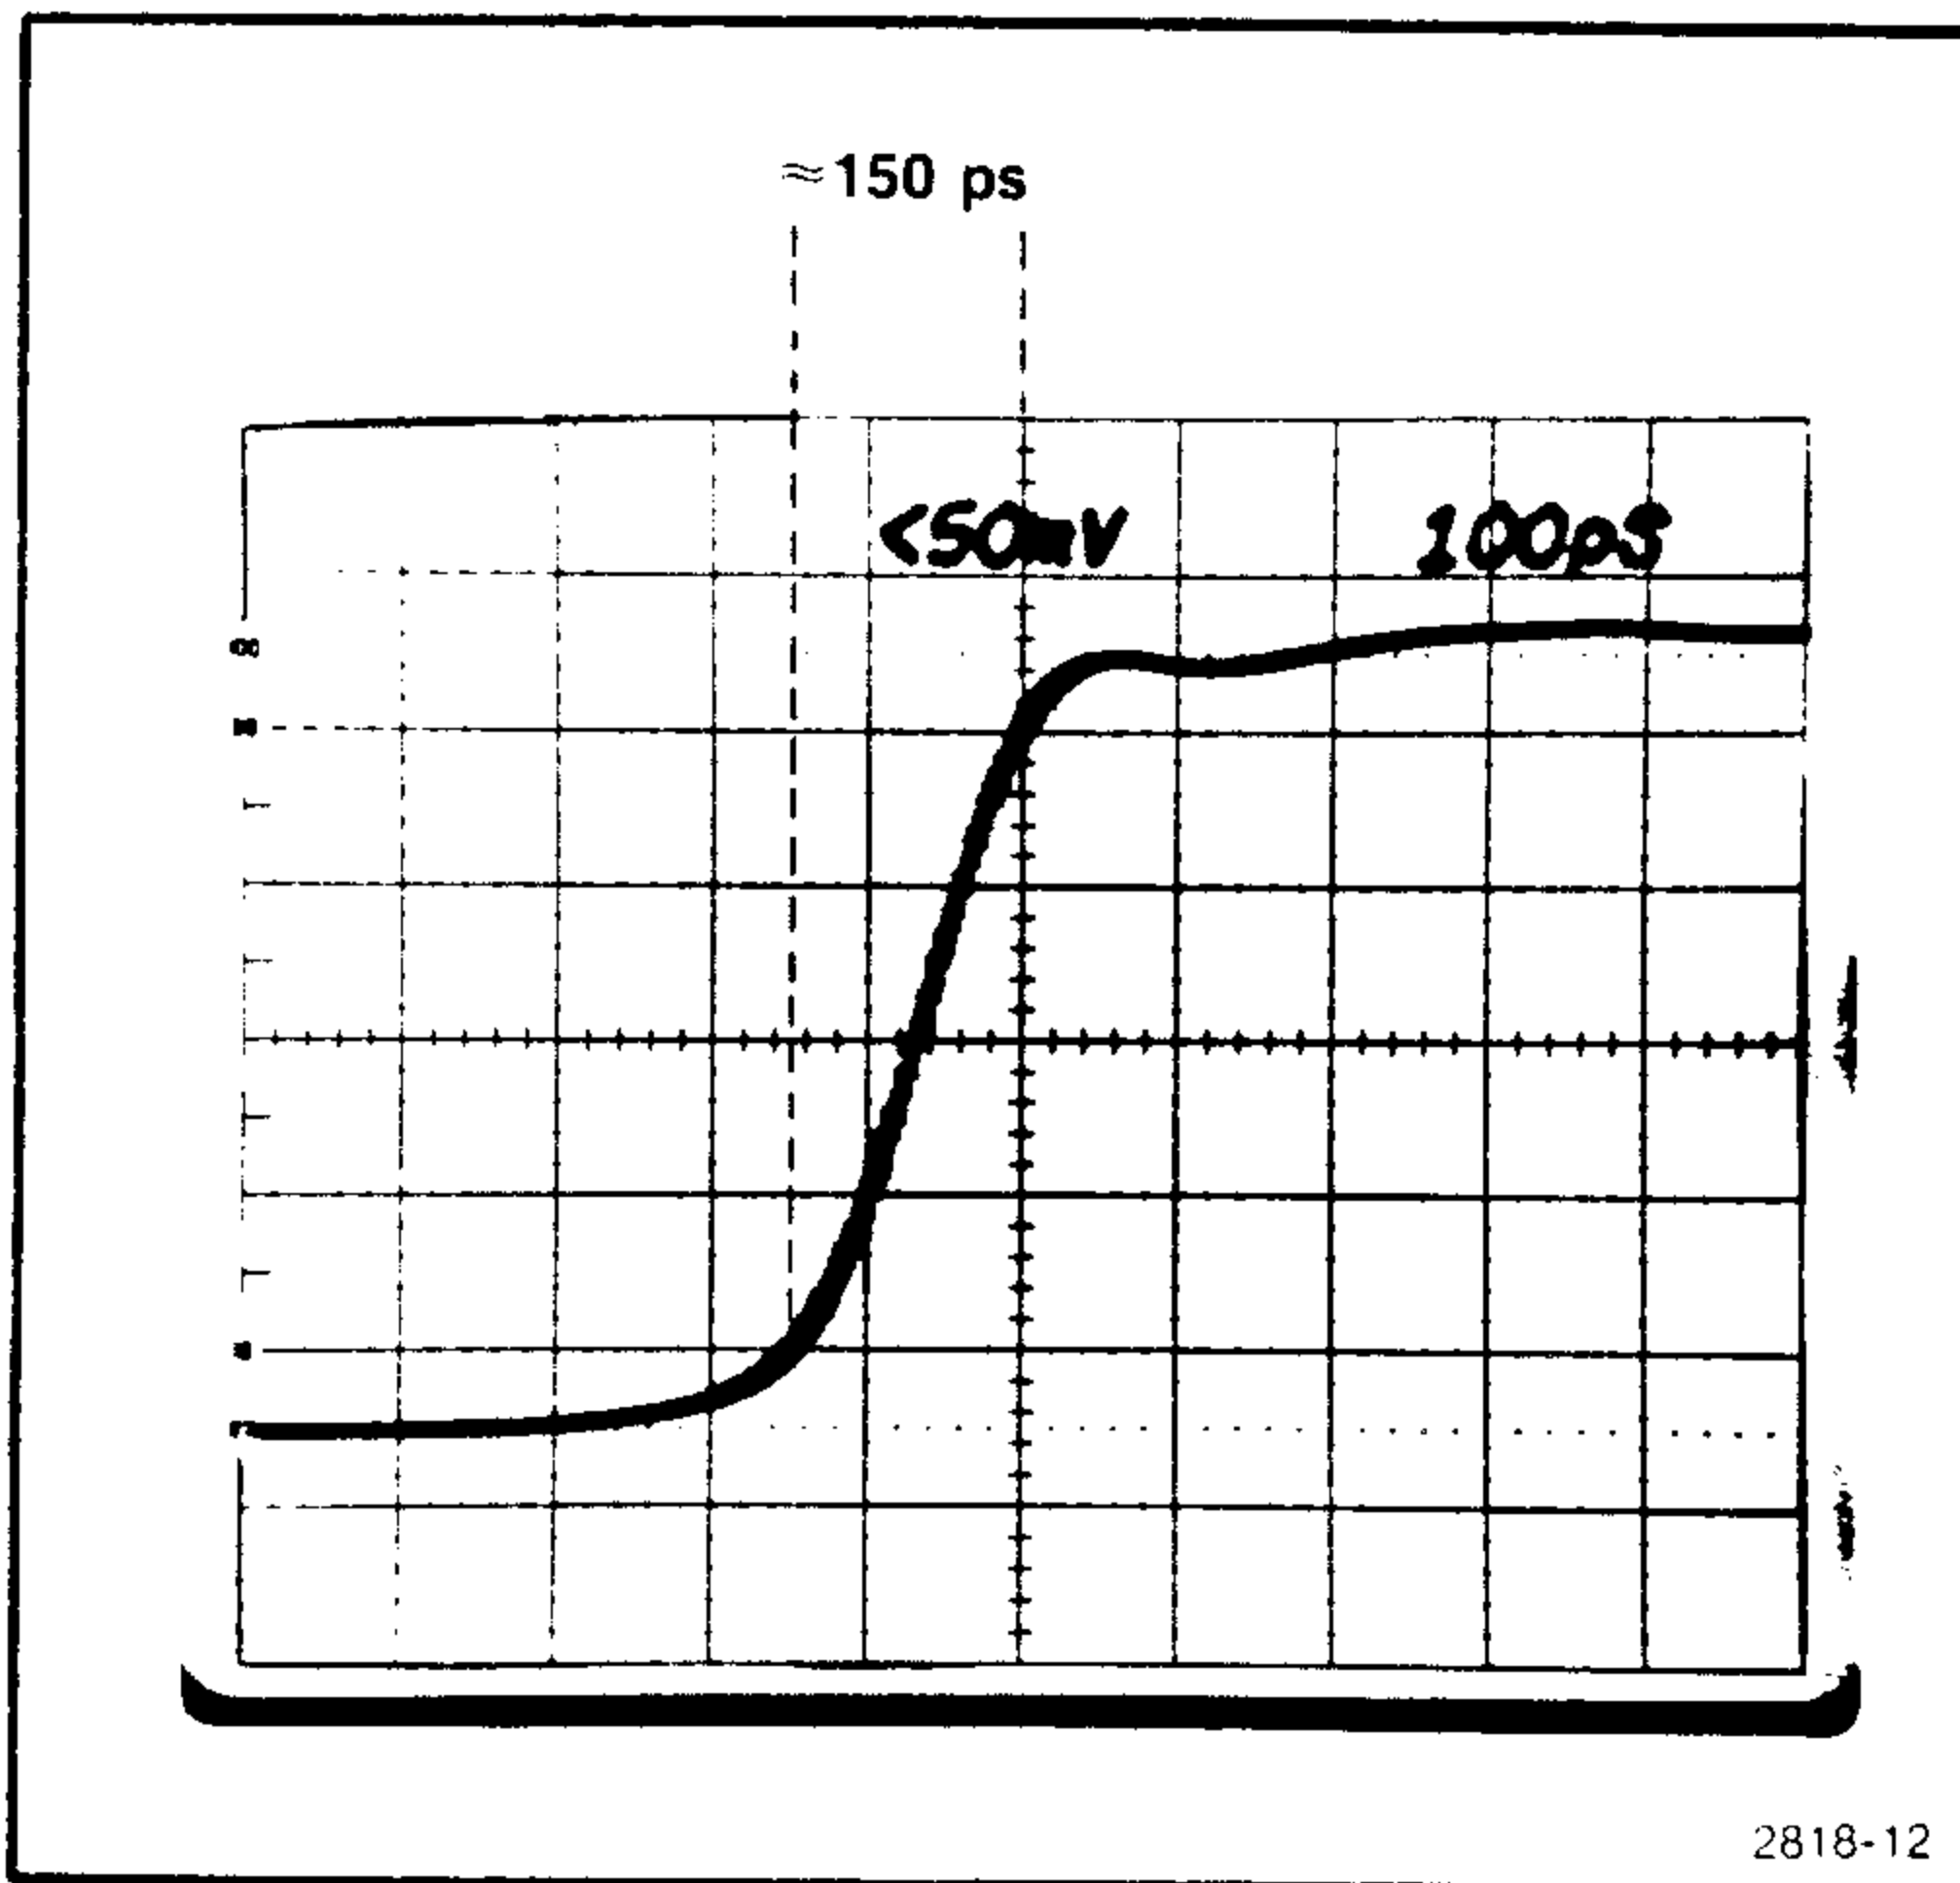

Fig. 4-2. Fast edge pulse risetime.
e. Rotate the 7T11 TIME POSITION control to position pulse as indicated in Fig. 4-2.
- i. Change the 7T11 TIME/DIV control to 5 ns and repeat parts a through e (the pulse in Fig. 4-2 will be inverted).